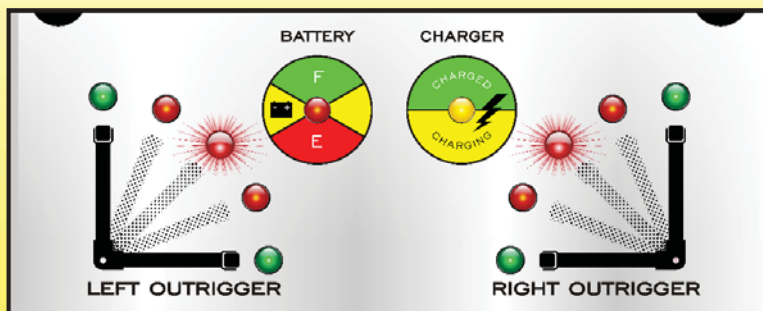

Figure 19 Battery Lockout Mode LED Indicators
the same time as shown in figure 19. Before using the UniLift for the first time, plug an extension cord into the charger's power cord and allow the batteries to completely charge. The "Charging" LED will glow green when the batteries are fully charged. The UniLift is now ready for use. Before using the UniLift, make sure you are familiar with the SAFETY INSTRUCTIONS, the OPERATING INSTRUCTIONS and are TRAINED. Only trained and authorized personnel shall be permitted to operate a UniLift.
**UniLift in Service Mode/ LED indication** – The UniLift operates using a series of switching and coordinating movements. The UniLift control system is programmed to enter Service Mode in the event the UniLifts program sequence has been compromised. In the event the UniLift enters Service Mode all six (6) red LEDs inside the arc of the right and left banks will illuminated continuously as shown in Figure 19. The UniLift will not operate in Service Mode. Remove the UniLift from service and have a qualified technician troubleshoot and perform service. Contact Bishamon Industries for assistance in troubleshoot and service.